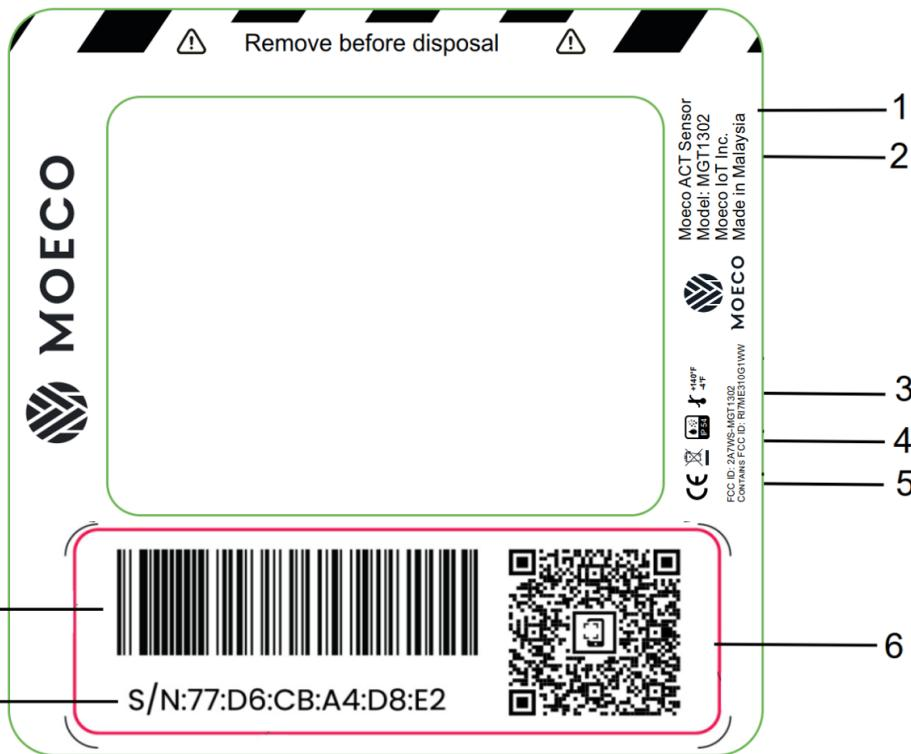

Fig. 4.2.1: MGT1301/MGT1302 identification
2. Switch the device to the active mode. To do this, press and hold the button in the center of the device for at least 3 seconds (Fig. 4.2.1). Release the button when the indicator starts to blink green.